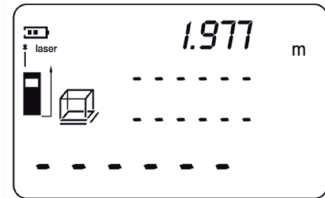

Fig. 12
4. Press the Read button to display the measured length on the first line of the screen. The line for the width in the  symbol will start to flash (fig. 12).